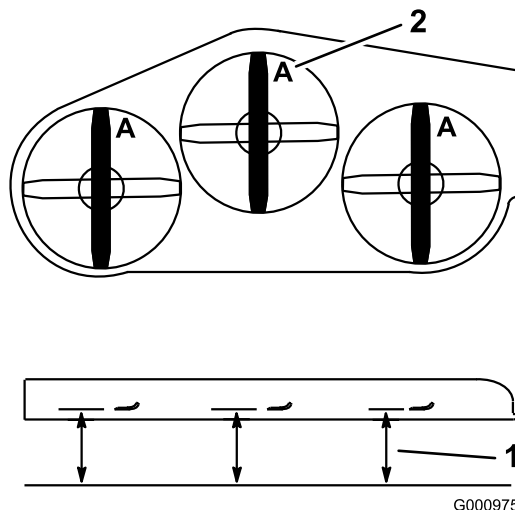

Figure 93
4. Measure from a level surface to the cutting edge, position A, of the blades (Figure 93).